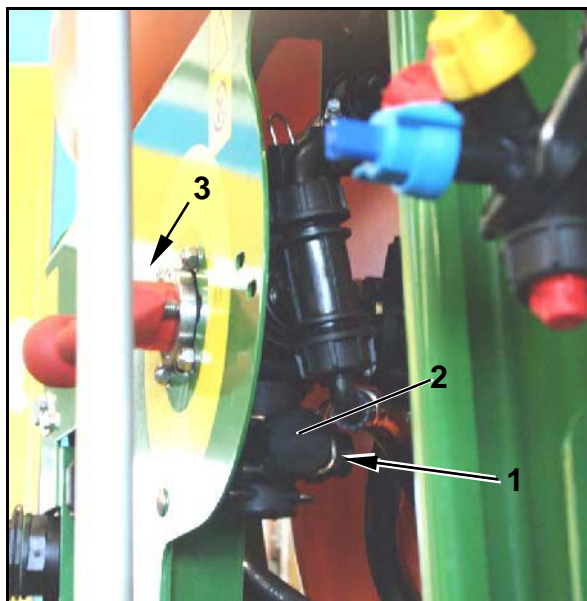

Fig. 225
1. Remove fixing clamp (Fig. 225/1) and pull the cap (Fig. 225/2) off the check port.